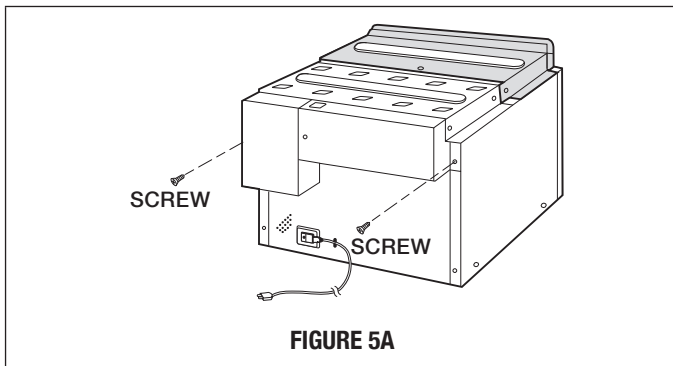

FIGURE 5A
E. Remove SCREWS from the upper right and left corners at the rear of the oven. Place duct assembly on the top of the unit as shown and secure the duct assembly to the oven using the 2 SCREWS just removed from the oven. See Figure 5A.